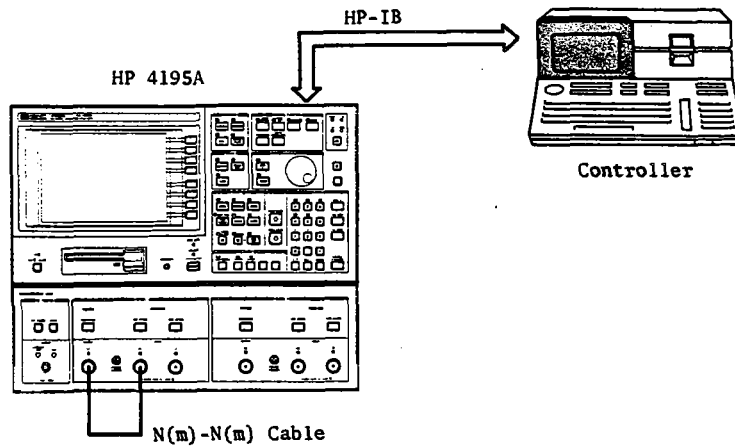

Figure 3-146. Signal Source Gain Adjustment Setup (1)
2. Connect an N(m)-N(m) cable from **OUTPUT S1** to **INPUT R1** as shown in Figure 3-146.